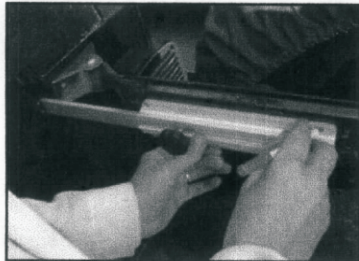

Figure 1
- 1) Mark the four mounting holes using the Slider Base-plate as a template (Figure 1).